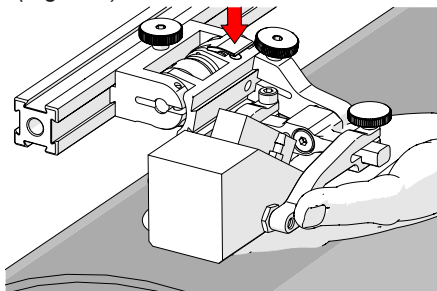

Fig. 205 - Lift and press latch button
3. Lift probe slightly and press latch button (Fig. 205) to apply spring pressure to the wedge.